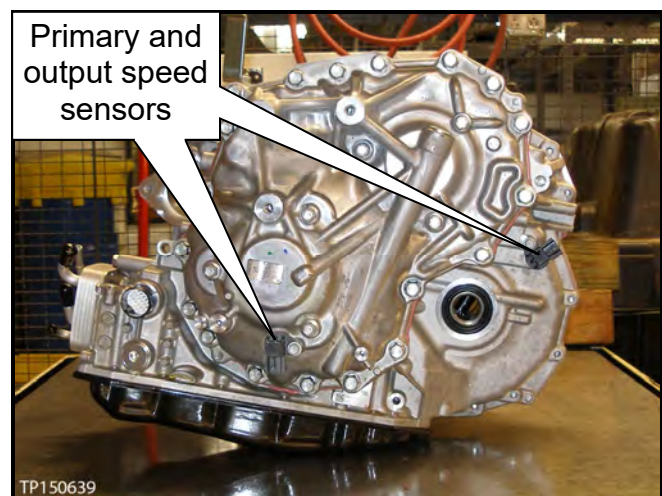

Figure 1
**CAUTION:** The primary speed sensor may become damaged when handling the CVT. Be careful when handling the CVT (see Figure 1).